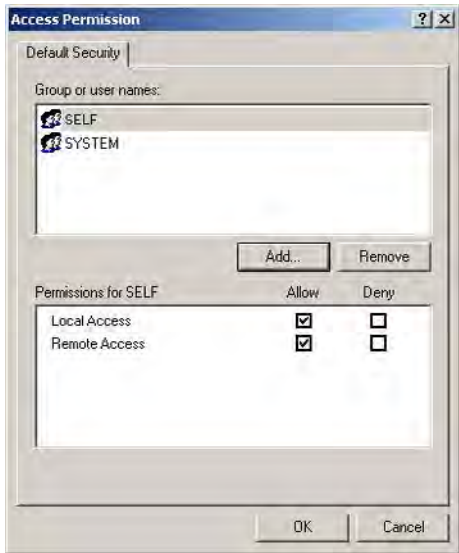

Figure A-17. Access Permission
- Click “Apply” after making changes as shown in Figure A-17.